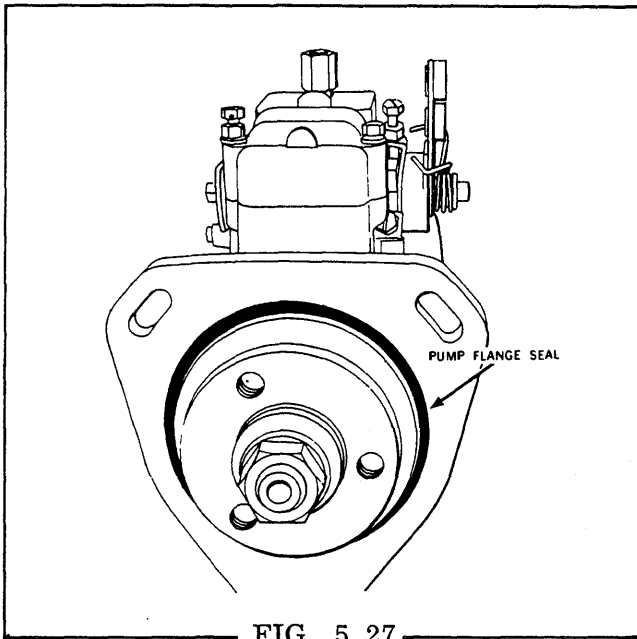

FIG. 5.27
STEP 27 Remove the pump from holding fixture and install the pump flange seal (Fig. 5.27).